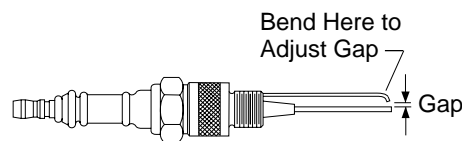

Figure 13 - Spark Plug Gap
5. Clean and regap spark plug electrodes to .110 gap (see Figure 13).